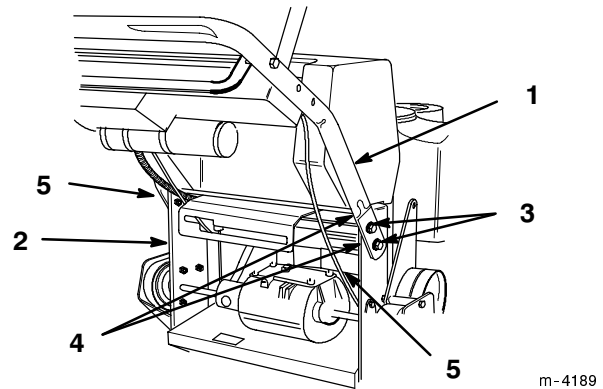

Figure 5
- Secure each side with (2) 3/8 -16 x 1" (26mm) flange bolts and flange nuts (Fig. 5). Torque bolts to 25 ft. lbs. (34 N.m).
- Route cables and wire harness inside of frame (Fig. 5). Secure wires and cable to handle with wire tie.